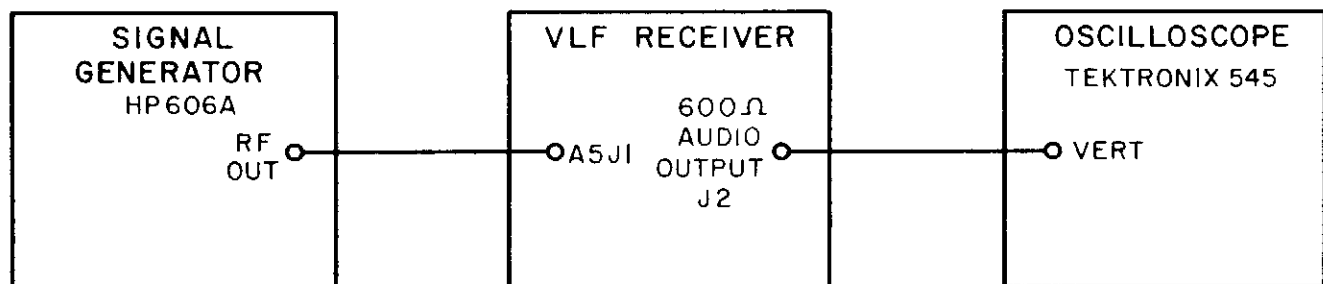

Figure 4-2. Equipment Setup, BFO Alignment
- (1) Set up equipment as shown in Figure 4-2. Use headphones to monitor receiver output.